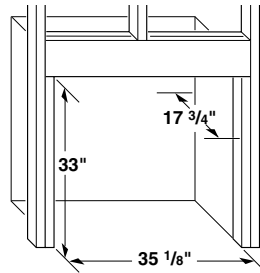
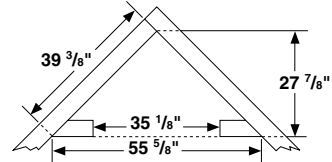

Figure 34 - Rough Opening for Installing in Wall
Figure 35 - Rough Opening for Installing in Corner
- Frame in rough opening. Use dimensions shown in Figure 34 for the rough opening. If installing in a corner, use dimensions shown in Figure 35 for the rough opening. The height is 33" which is the same as the wall opening above.